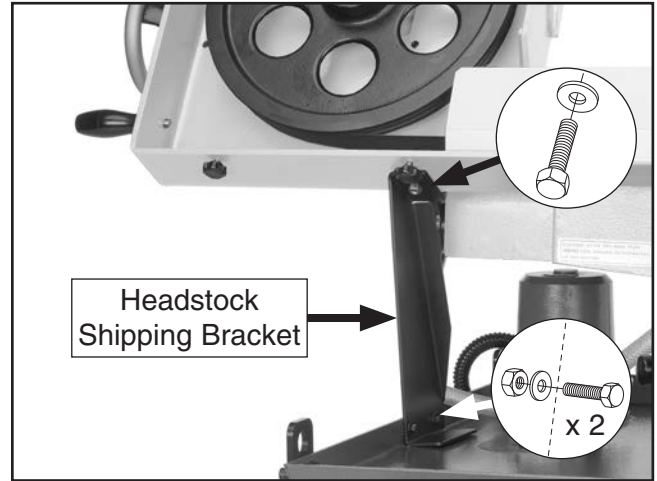

Figure 15. Location of headstock shipping bracket and fasteners (blade cover removed for clarity).
4. Remove (2) hex nuts, (3) hex bolts, and washers shown in **Figure 15** to remove headstock shipping bracket.